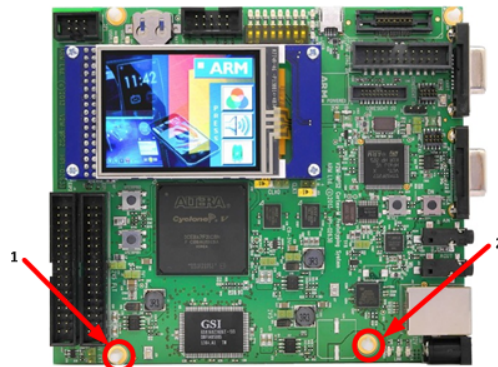

Figure 3-1 Plastic spacers removal
1. Remove the two plastic spacers, supplied with MPS2+ motherboard, from the mounting holes (Figure 3-1).